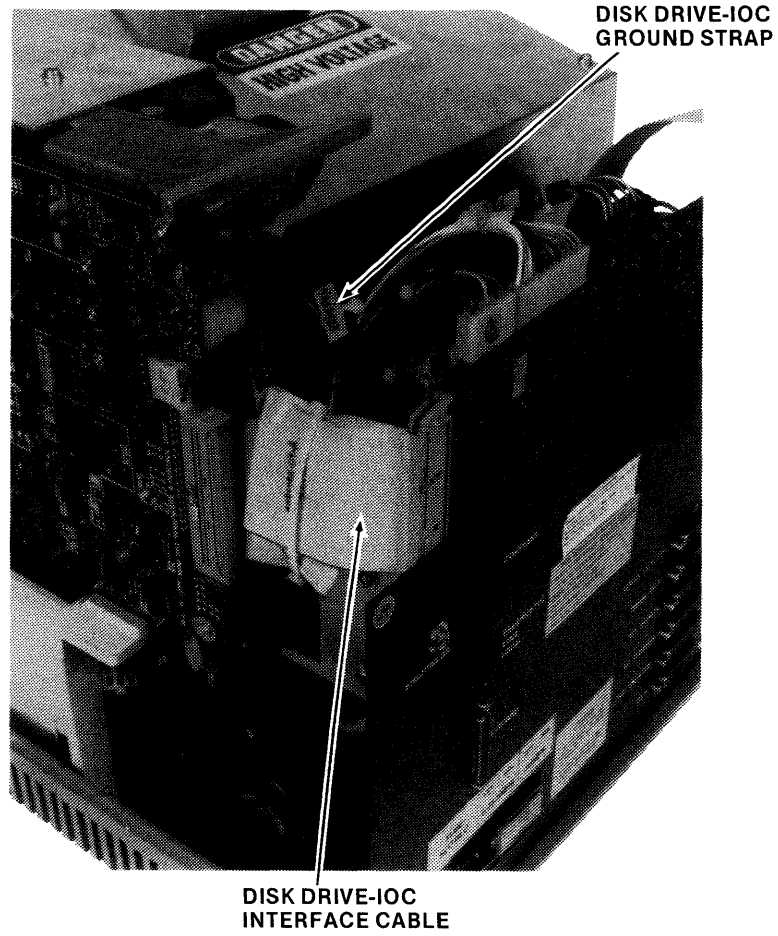

Figure 4-20. Disk Drive Interface Cable and Ground Strap Installation
14. Refer to Figure 4-20. Remove the screw in the upper right-hand corner of the drive, and attach the braided ground strap (4002423) with a #6 lock washer and a 6-32 x 3/8 screw. Fasten the other end of the braided ground strap to the IOC ground tab adjacent to the IOC disk interface cable connector, using an 8-32 x 3/8 screw, a #8 flat washer, and a #8 keeper nut.
15. Connect the interface cable from the disk drive to the IOC board as shown in Figure 4-20.